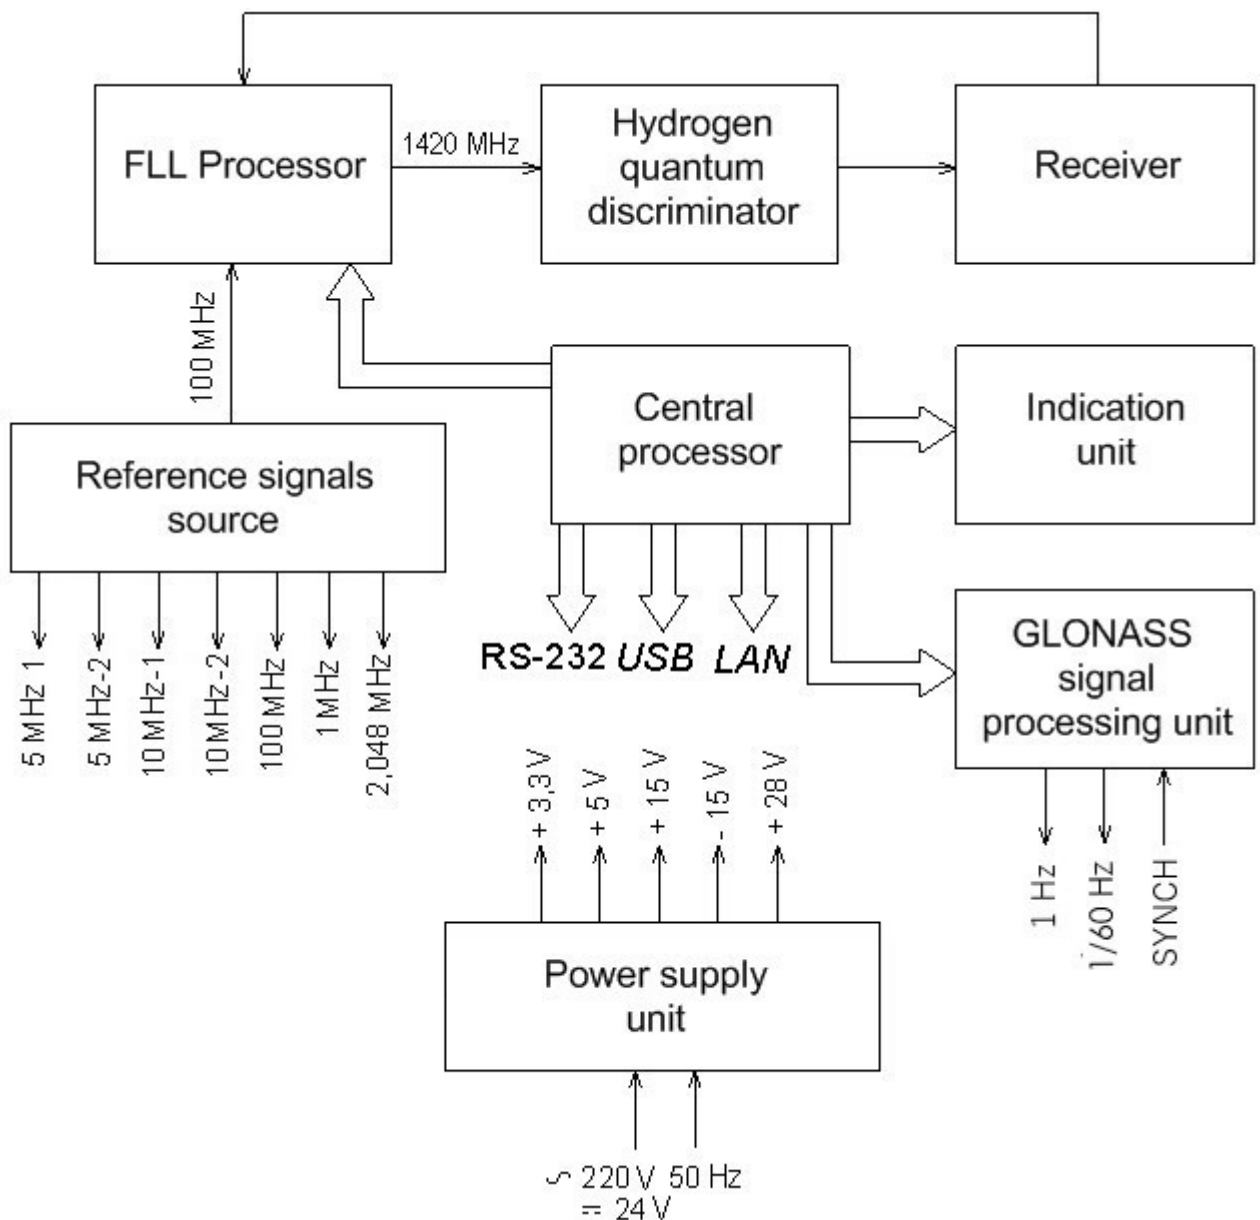

Fig.1.2. VCH-1008 block-diagram
1.1.4.2 Hydrogen frequency and time standard VCH-1008 is a hydrogen standard of passive type. The principle of operation of the device is illustrated by the block-diagram in the Fig. 1.2.